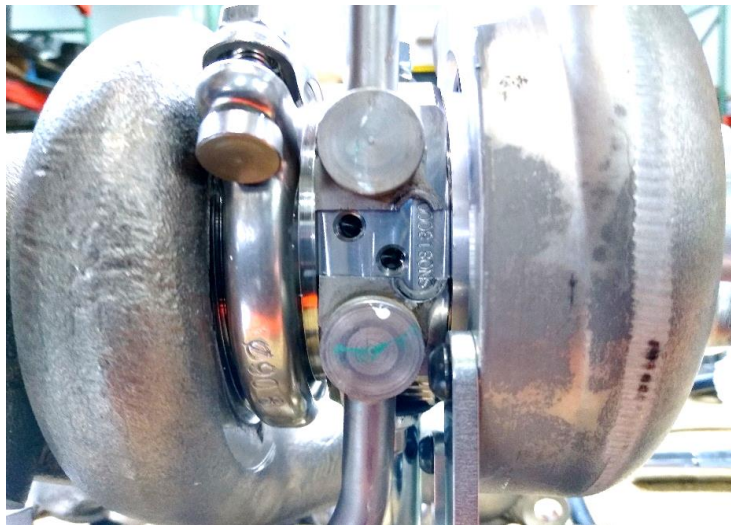

Figure 5
Step 10: Using the supplied 9" coolant line with fire sleeve, connect line to the existing coolant line on the turbo. Connect line to the turbo as shown in Figure 5. Secure all connections with 18mm pinch clamps.